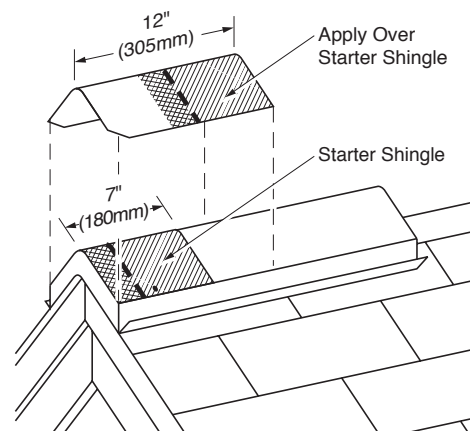

Figure 12-13: Apply a full cap shingle over the starter piece, flush with the bottom and side edges of the starter.
3. Apply a full cap shingle over the starter (Figure 12-13), and place fasteners at  $5\frac{5}{8}$ " ( $6\frac{1}{4}$ " for metric) up from the exposed bottom edge and 1" in from each side. Nails must not be exposed on the finished roof. All nail heads must be driven straight and must not cut into the shingle surface.